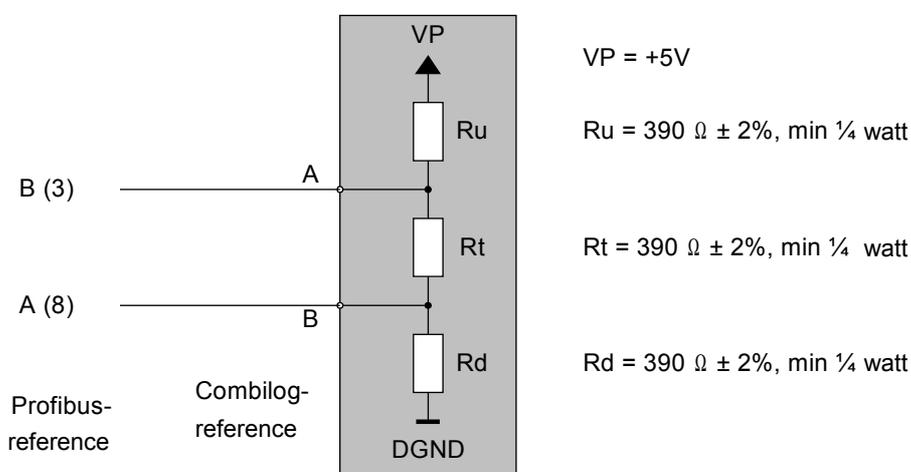

Figure 10.5 Bus termination
**Note:** The numbers in brackets in figure 10.5 indicate the pin number for the connection via the 9-channel D-sub miniature plug.
The bus termination can be carried out in various ways. It can either be carried out via external resistors and a separate power supply, independent of the module, according to figure 10.5. In this case we recommend to use the indicated resistors for the bus termination.